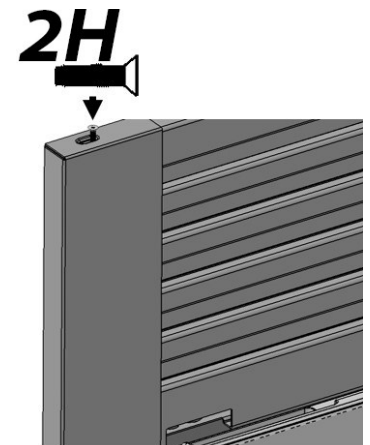

Fig. 16
- b. Fasten 2H screws to the Top Trim (Fig. 16) and repeat for the right hand side.